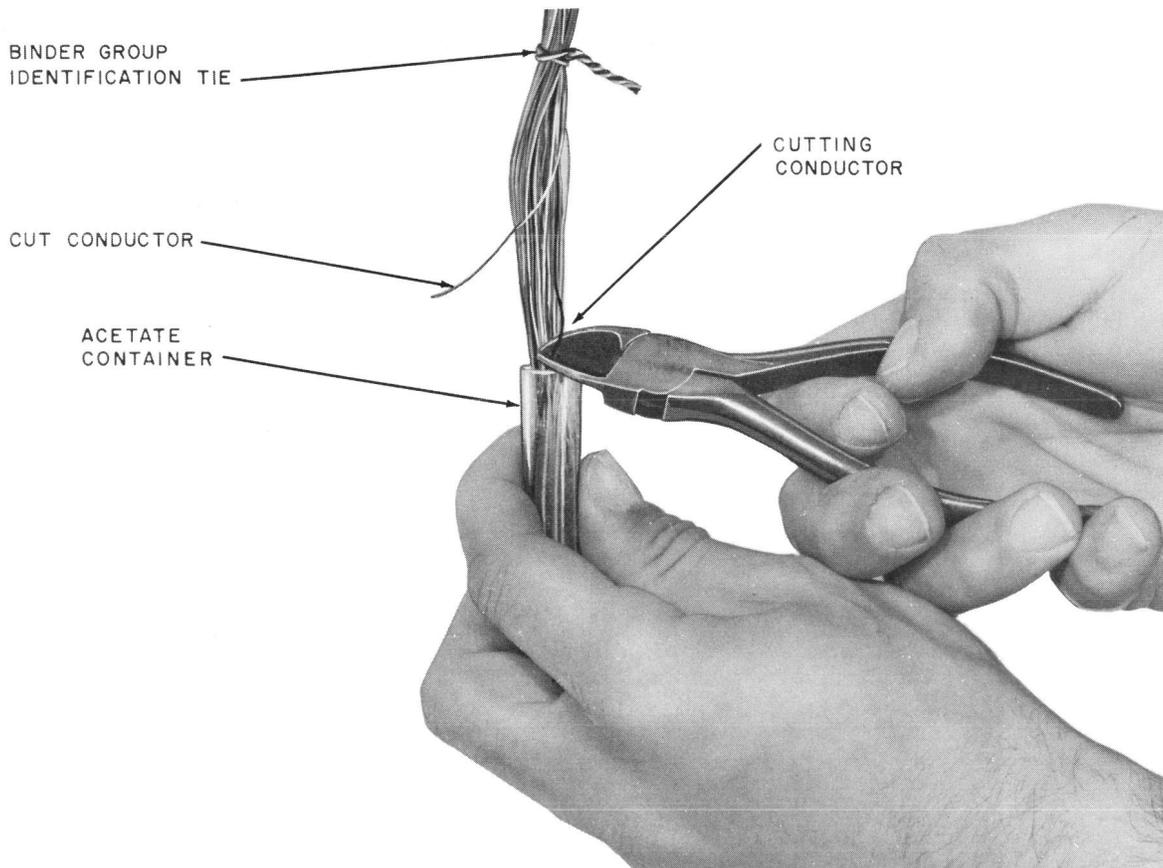

Fig. 8—Cutting Assigned Pair from Capped Binder Group
5.03 Cut the assigned *IN* pair as close to the acetate container as possible as shown in Fig. 8.